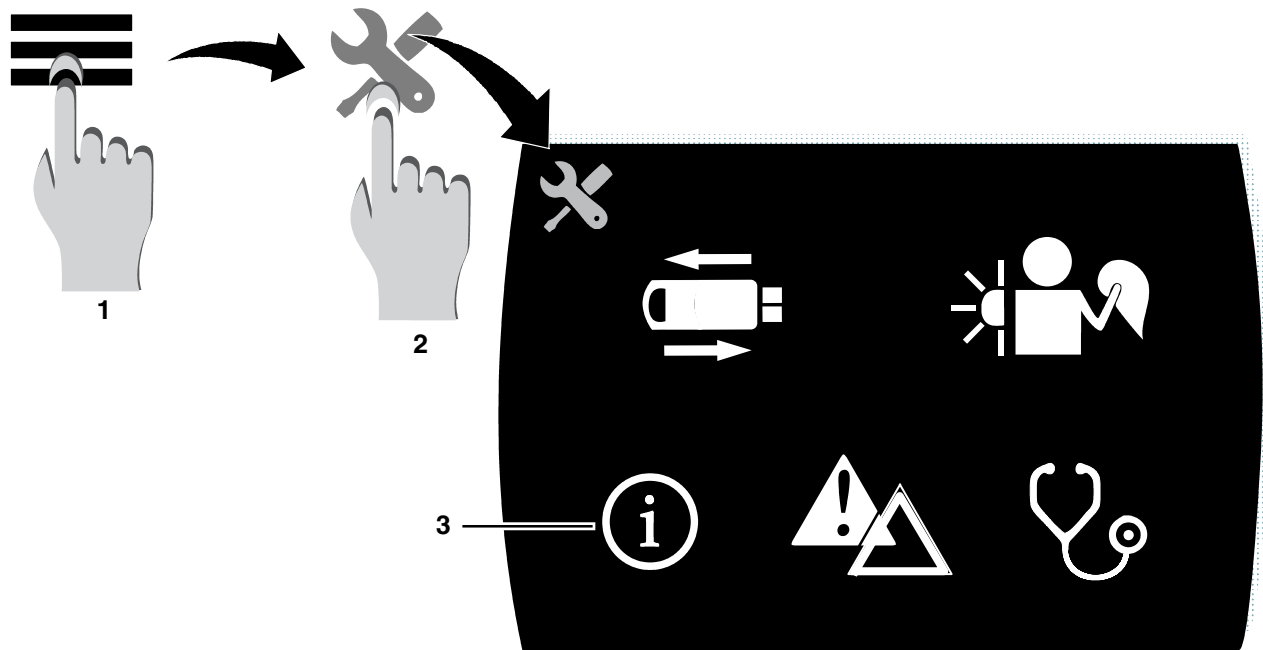

Figure A-2 Access System Information screen
- Access System Information and then tap the **License** button to access the numeric keypad. See Figures A-2 and A-3.